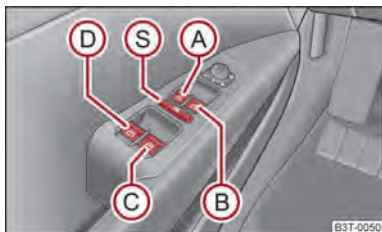

Fig. 27 Buttons on the driver's door
The switches for the individual windows are located in the armrest for the driver → fig. 27, front passenger and in the rear doors → fig. 28.
You can deactivate the buttons for power windows at rear doors by pressing the safety pushbutton Ⓢ → fig. 27. The buttons for power windows at rear doors are activated again by pressing the safety pushbutton Ⓢ again.
- It is recommended to deactivate the electrically operated power windows in the rear doors (safety pushbutton) Ⓢ → fig. 27 when children are being transported on the rear seats.